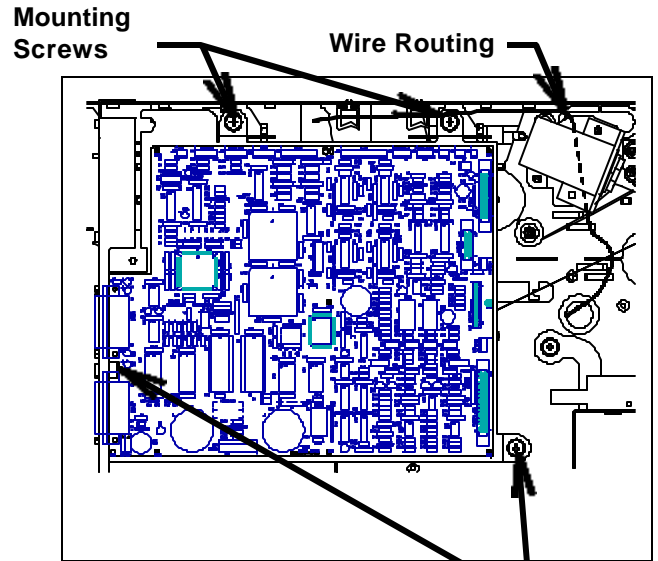
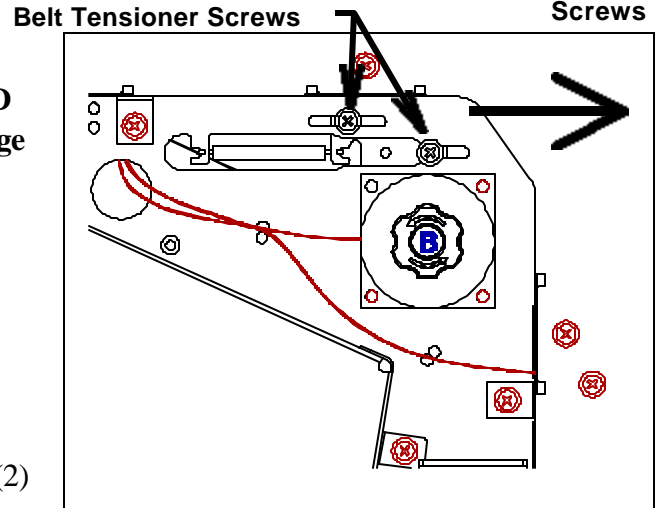

Figure 1 Mounting Screws
Figure 2
5. Disconnect all connections from main controller board assembly (Figure 1).
6. Loosen the (4) main controller board Mounting Screws and remove the main controller board assembly.
7. Use a Phillips screwdriver to loosen (**but do not remove**) (2) #8-32 Belt Tensioner Screws. Move tension assembly to far right position, and re-tighten both screws (Figure 2).